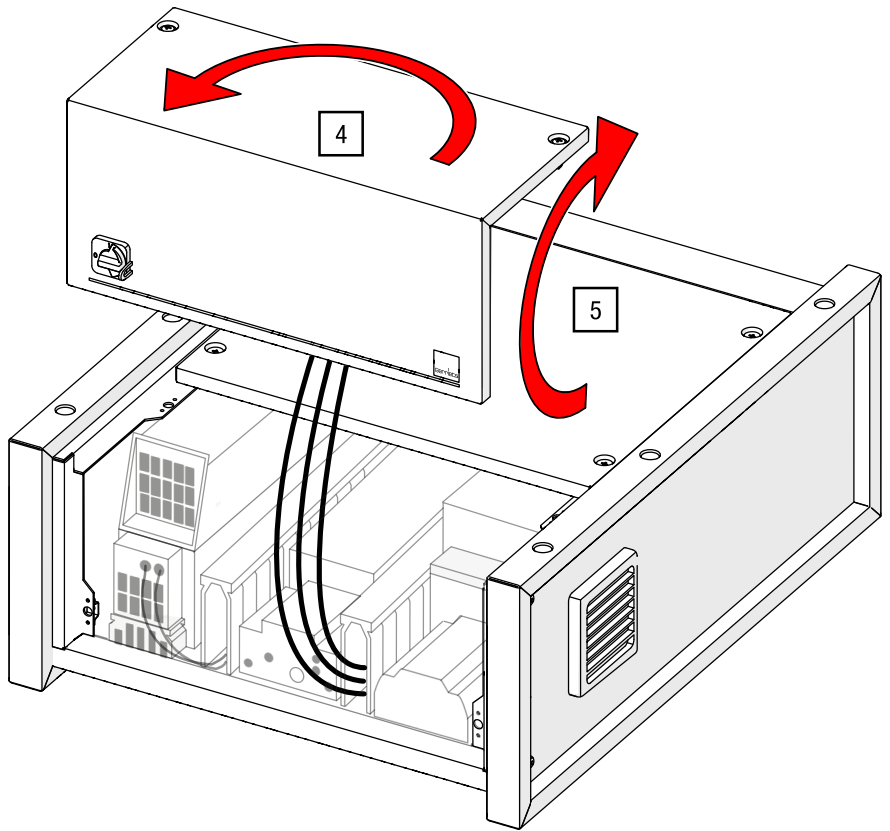

Fig. 17: Rotate detached control terminal (control model may differ)
4. and 5. Rotate the control panel by 180° and then tilt it by 90° so that it is orientated as shown in Fig. Fig. 18 (see Fig. 17).